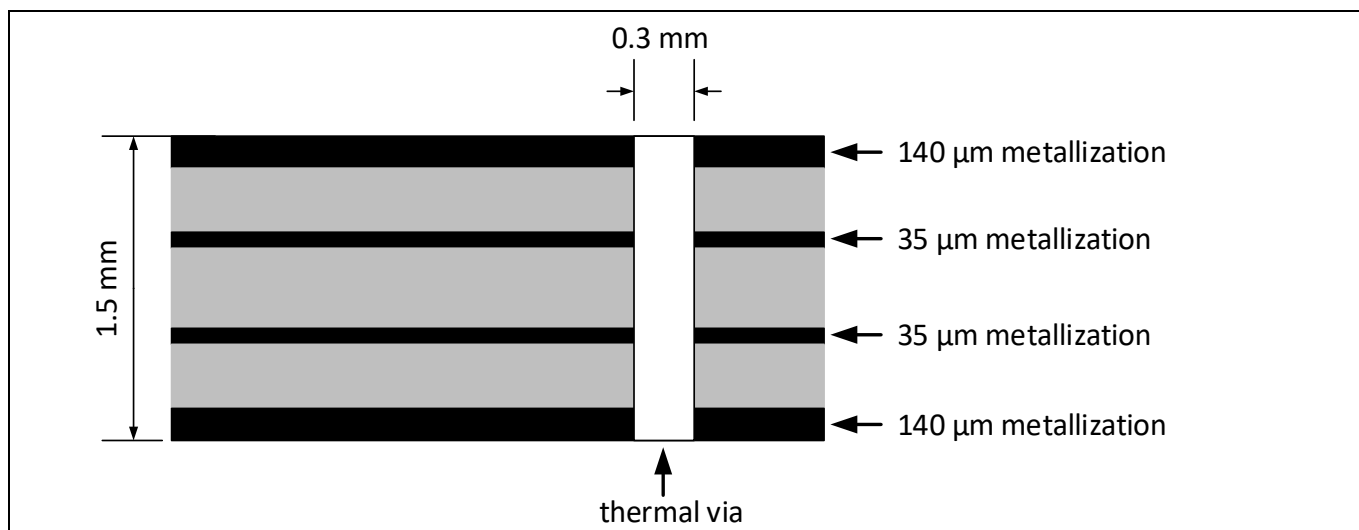

Figure 4 Reference board layer stack
- The TLE4973 EVAL 120A board consist of four layers described in the below Figure 4.